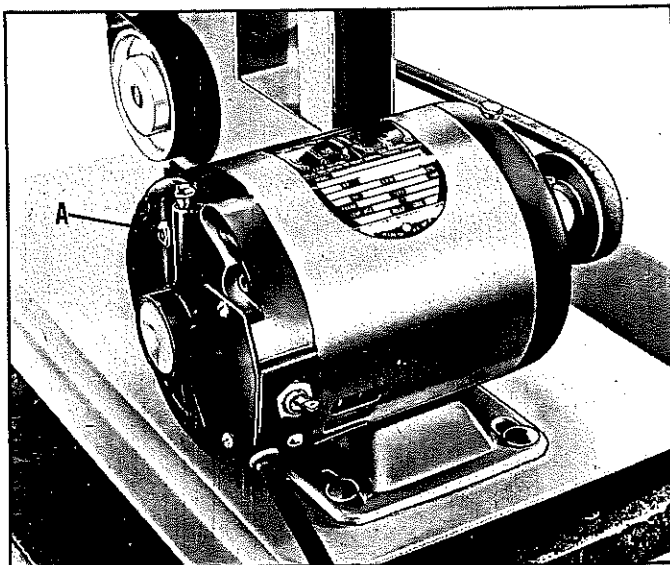

Fig. 7.
The Cat. No. 60-050 Single Phase Motor recommended for use on your Sander/Grinder has a red reset overload relay button in the end bell. If the motor shuts off due to overloading or low voltage, let the motor cool three to five minutes and push the reset button, (A) Fig. 7. If this trouble is repeated, investigate to determine and correct the cause of the trouble. Many times this type of failure indicates the use of an extension cord which is too long or the size is too small to carry the current required.